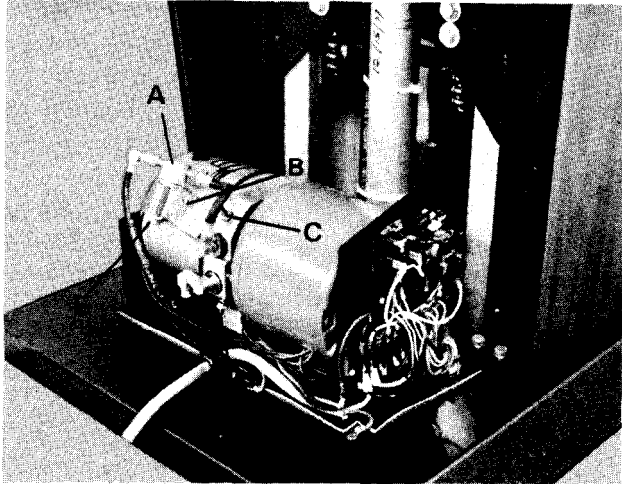

Fig. 28
The anticavitation solenoid valve Item A, Fig. 28 will prevent cylinder extension when the cylinder solenoid is unenergized.
- 3) Remove (2) hose fittings from the valve.
- 4) Remove anticavitation valve from table by removing (2) screws, Item B, Fig. 28.
- 5) Place new anticavitation valve in position, align holes, and install (2) #8-32 x 3/8" screws, Item B, Fig. 28.
- 6) Install the (2) hose fittings on the new valve.
“Up” Flow Control (Item C, Fig. 28). The “up” flow control is adjusted for a time of 13 seconds to raise the table to its highest position from its lowest position.
“Down” Flow Control (Item D, Fig. 28). The “down” flow control is adjusted for a time of 12 seconds to lower the table from its highest position to its lowest position.